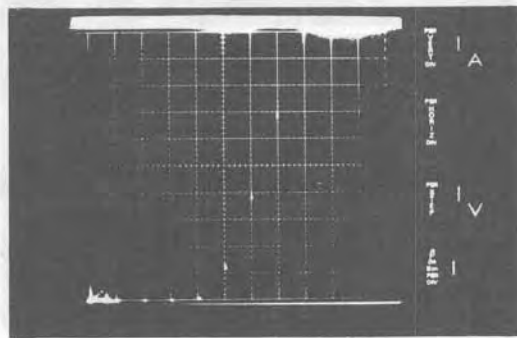

Figure 13. Transfer Characteristics ( $I_D$  versus  $V_{GS}$ )
- Increase the VARIABLE COLLECTOR SUPPLY voltage to obtain the trace shown in Figure 13. The transfer characteristic is outlined by the displayed points.